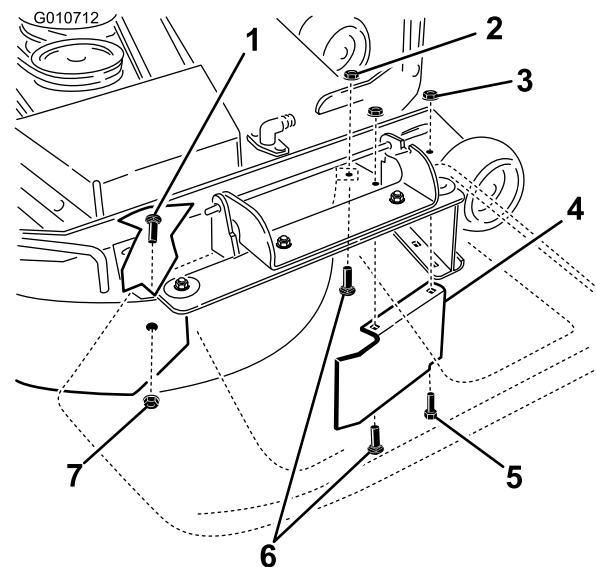

Figure 4
10. Locate the baffle guard in loose parts. Use the three sets of fasteners removed from the discharge plate and forward hole to secure the baffle guard and the right baffle to the mower deck as shown in Figure 4. Hand tighten the fasteners.